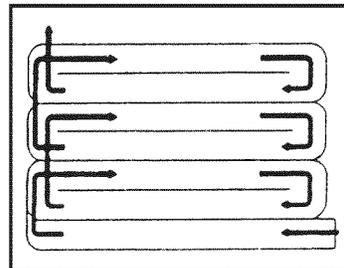

FIGURE 7
- Where possible, we recommend tilling in a pattern similar to that shown in Figure 7. Make the first pass, then skip a space equal to the width of the tiller and make the return pass. Then till the skipped area. Tilling in this pattern will enable you to maintain better control. If the passes were made side-by-side, the tractor and tiller would tend to pull toward the tilled (soft) side.